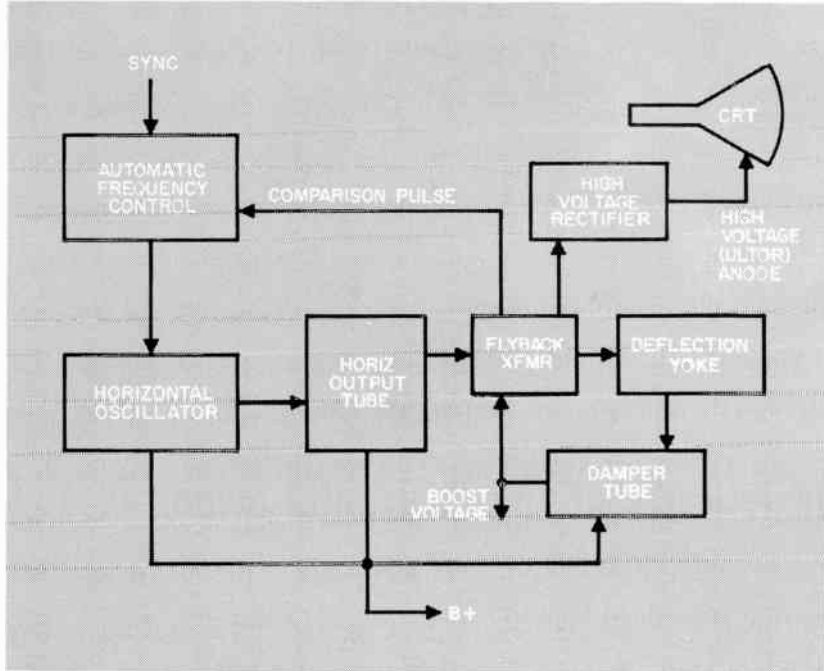

Fig. 101. Block diagram shows basic connections between stages in TV horizontal sweep circuits.
the high-voltage (HV) for the CRT. Follow these through on the block diagram of Fig. 101.